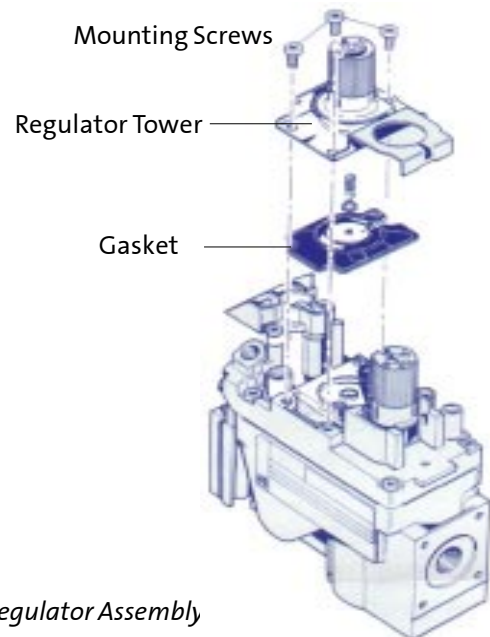

Figure 5. Regulator Assembly
11. **Install the new variable regulator tower** being sure that the gasket is properly positioned and tighten screws securely. (Apply the enclosed valve label to the **valve body** where it can be easily seen.) See Fig. 5.